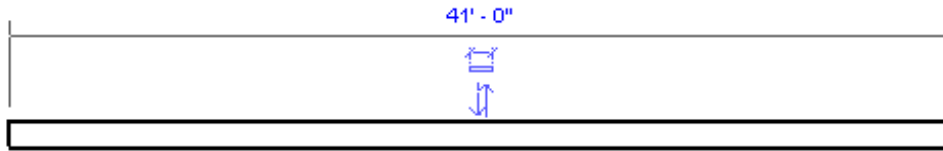

Figure 2-25 The sketched horizontal wall with its controls
5. Move the cursor to the right until the temporary dimension shows the value to be more than 40'0". Click at this location as the endpoint of the wall segment. The created wall shows its temporary dimension, a dimension symbol, and a twin arrow symbol, as shown in Figure 2-25.